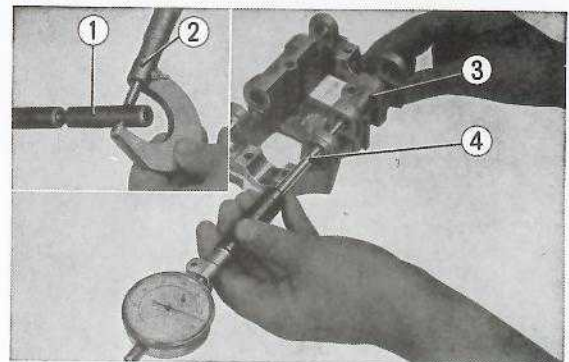

Fig. 3-53 ① Rocker arm shaft
4. Measure the rocker arm shaft support area with a micrometer and measure the rocker arm shaft bearing diameter bore using inside micrometer. Calculate clearance and if it is greater than 0.0047 in. (0.11 mm), replace either one or both of the parts. (Fig. 3-53)